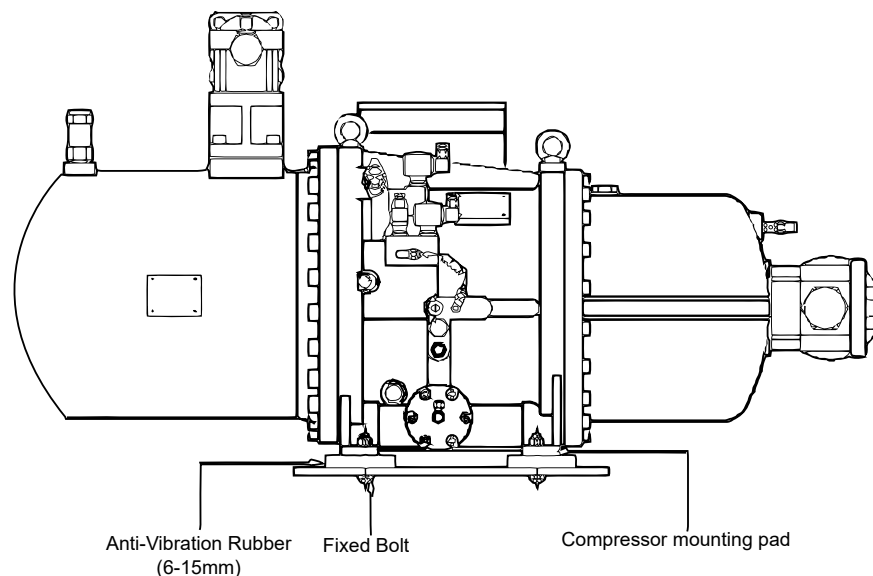

Figure 8-A Absorber Installation
4. Refer to Figure 8-A showing a 6mm to 15mm.